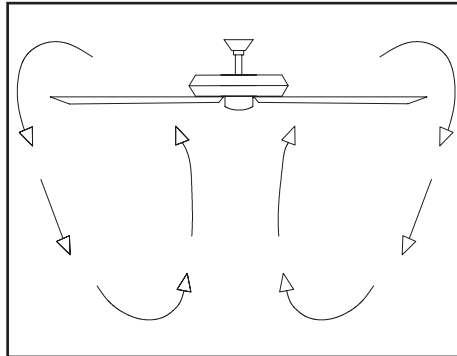

Figure 22
**Cool weather** - (Reverse) An upward air flow moves warm air off the ceiling as shown in Figure 22. This allows you to set your heating unit on a lower setting without affecting your comfort.